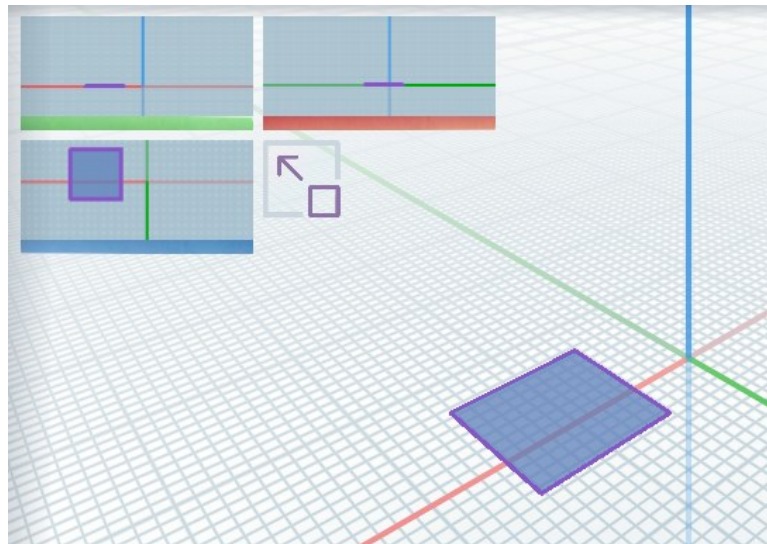

Figure 91 – Creating a sketch by extruding a flat shape from the shape library
- 1) Create a sketch from the shape library by clicking or extrusion (Figure 91) or using the **Spline** tool.